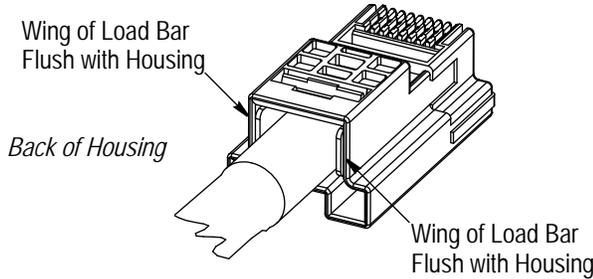

Figure 7
8. Insert the load bar into the housing so that the wings are flush with the back of the housing. Ensure that the signal conductors are bottomed in the wire entry circuits and clearly visible through the front of the housing. See Figure 7.